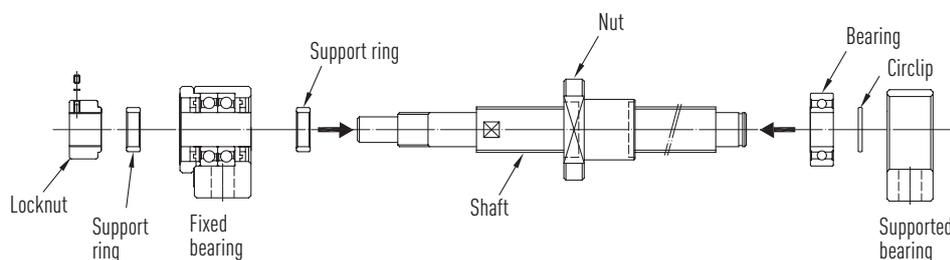

Fig. 4.8 Exploded view of the ballscrew with bearing units
- ▶ Using the circlip, secure the supported bearing to the ballscrew spindle (see Fig. 4.8).